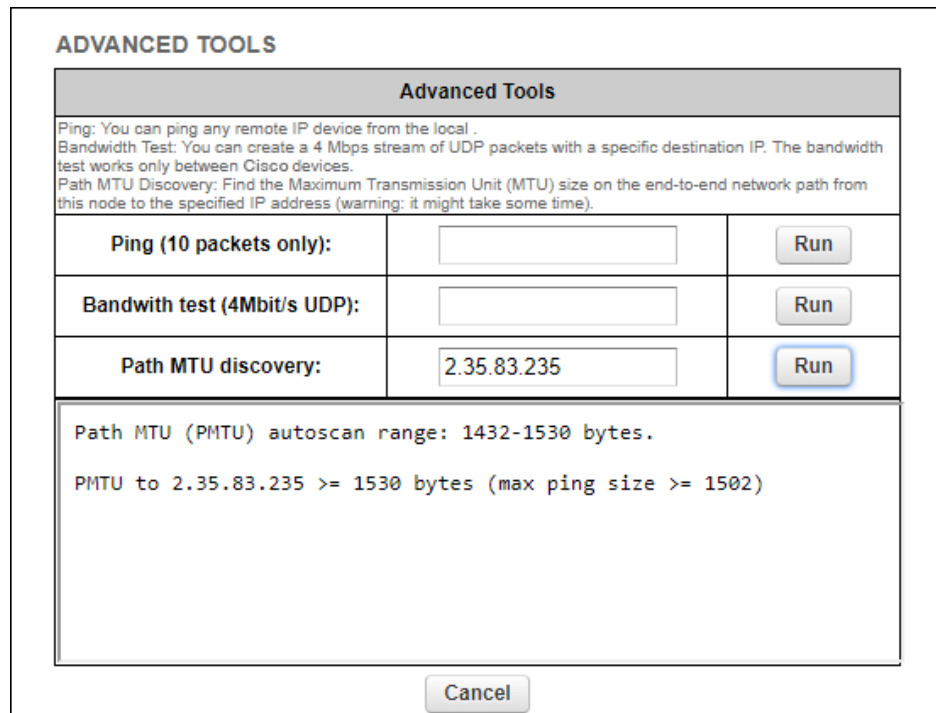

Figure 33. Advanced Tools window (Path MTU test tool)
2. Enter the IP address of the second unit in the **Path MTU discovery** field (Figure 33 \(page 103\)).